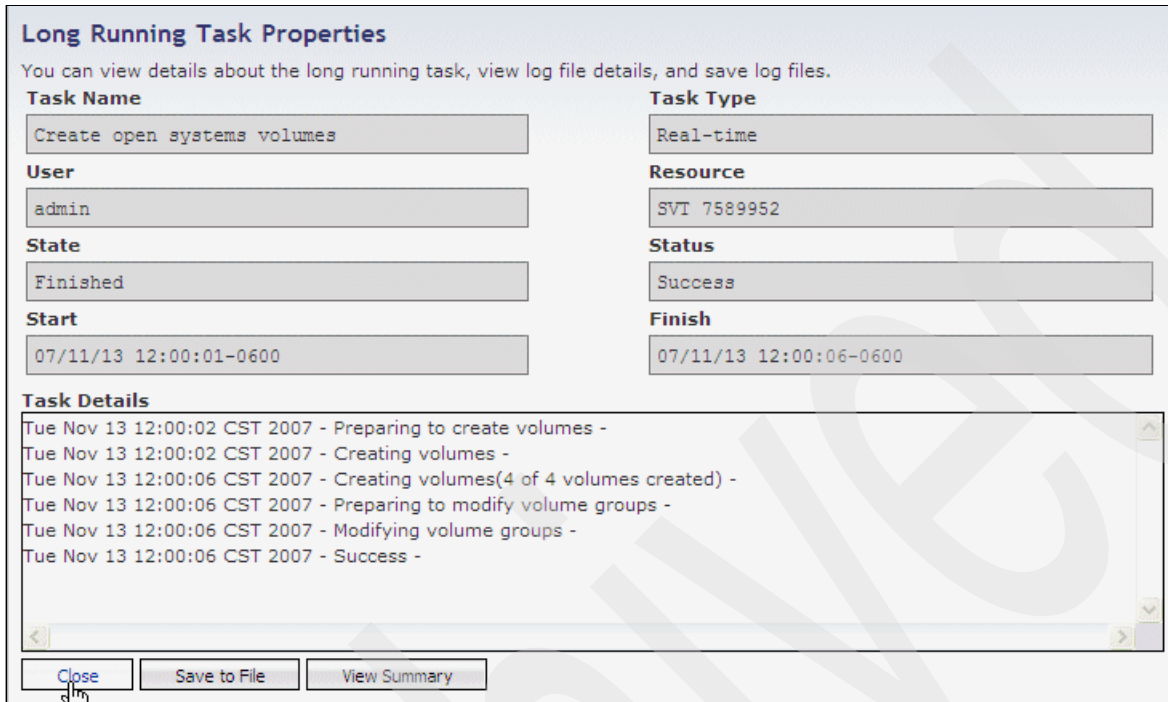

Figure 10-16 Long running task message for creating volumes
- During the creation of the volumes, the Long Running Task Properties panel displays. You can close this panel by clicking **Close**. You can find all of the tasks detail by selecting **Real-time manager** → **Monitor system** → **Long running task summary**. You can also save the Long Running Task Properties to a file. See Figure 10-16.